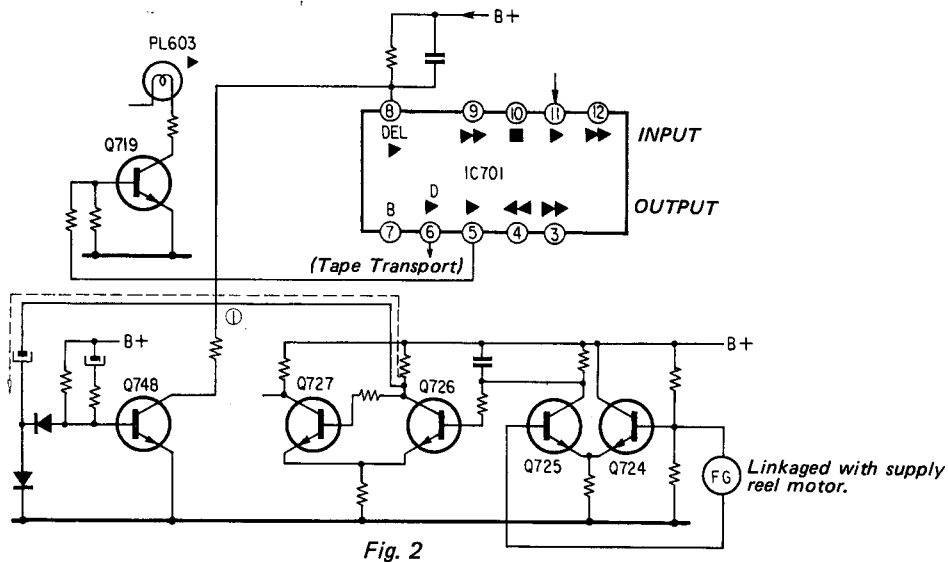

Fig. 2
2. Action when switched from Fast Forward (▶▶) or Rewind (◀◀) to Forward (▶). (Refer to Fig. 2)